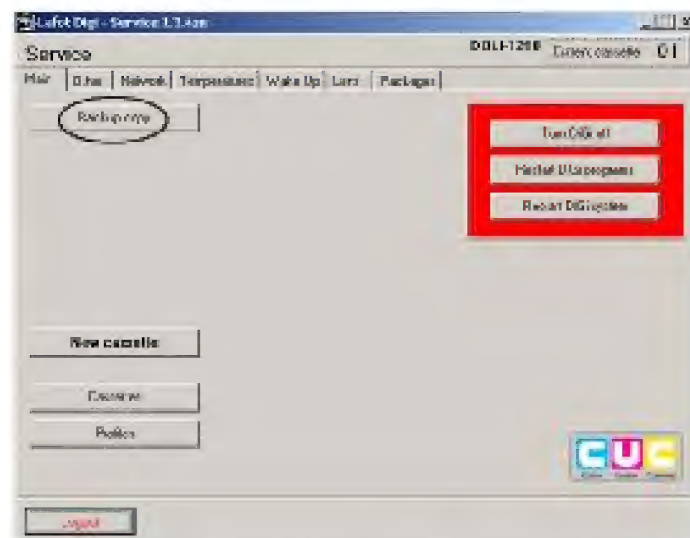

Fig 3.4.2
- Click **Service**, and then under **Main** tab click **Backup copy** (Fig 3.4.2).